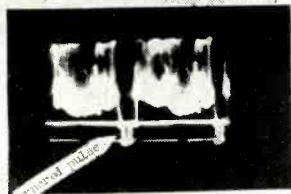

Fig. 1—Scopes with wide band vertical amplifiers display square corners on pulses.
A. Scopes with wide-band vertical amplifiers display the square corners of pulses, as shown in Fig. 1. However, scopes with narrow-band vertical